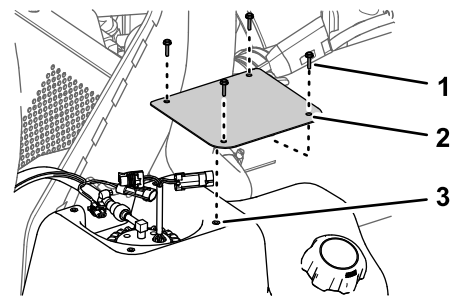

Figure 121
1. Assemble the cover to the tank (Figure 121) with the 4 screws (#10 x 3/4 inch) that you removed in step 2 of Removing the Fuel Pump Cover (page 67).